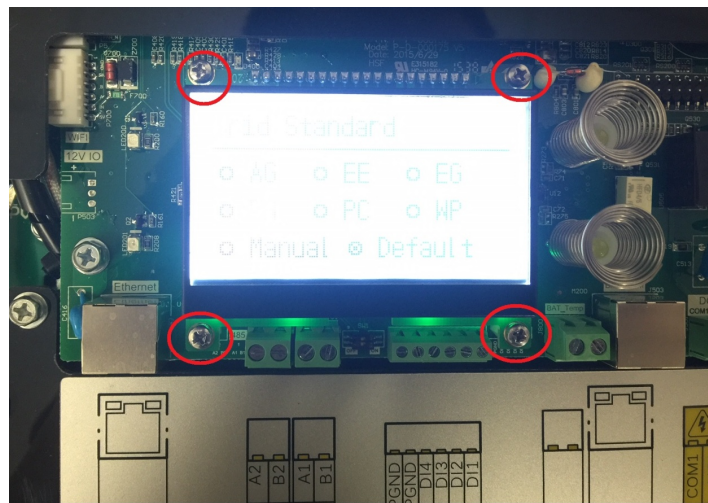

Figure 1: Old LCD
3. Unscrew four screws (the screw positions are shown in Figure 1).